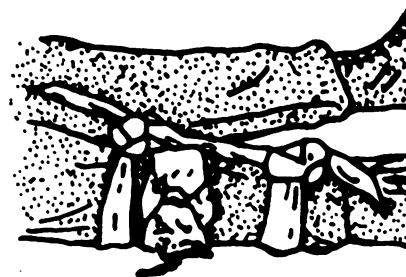

Figure 7. Stick tied to leg to prevent unwinding.
- d. Tie the tourniquet to the injured arm or leg to prevent unwinding as shown in figure 7.